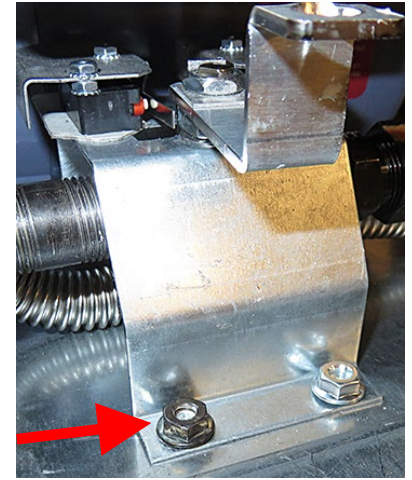

Figure 26
30. Using a 7/16" wrench, attach the switch assembly to the (4) four studs on the filter pump mounting plate using 4 - ¼"-20 nuts (see Figure 26). **Ensure ALL FOUR (4) nuts are ATTACHED to prevent movement and bending of the switch assembly during disposal.**